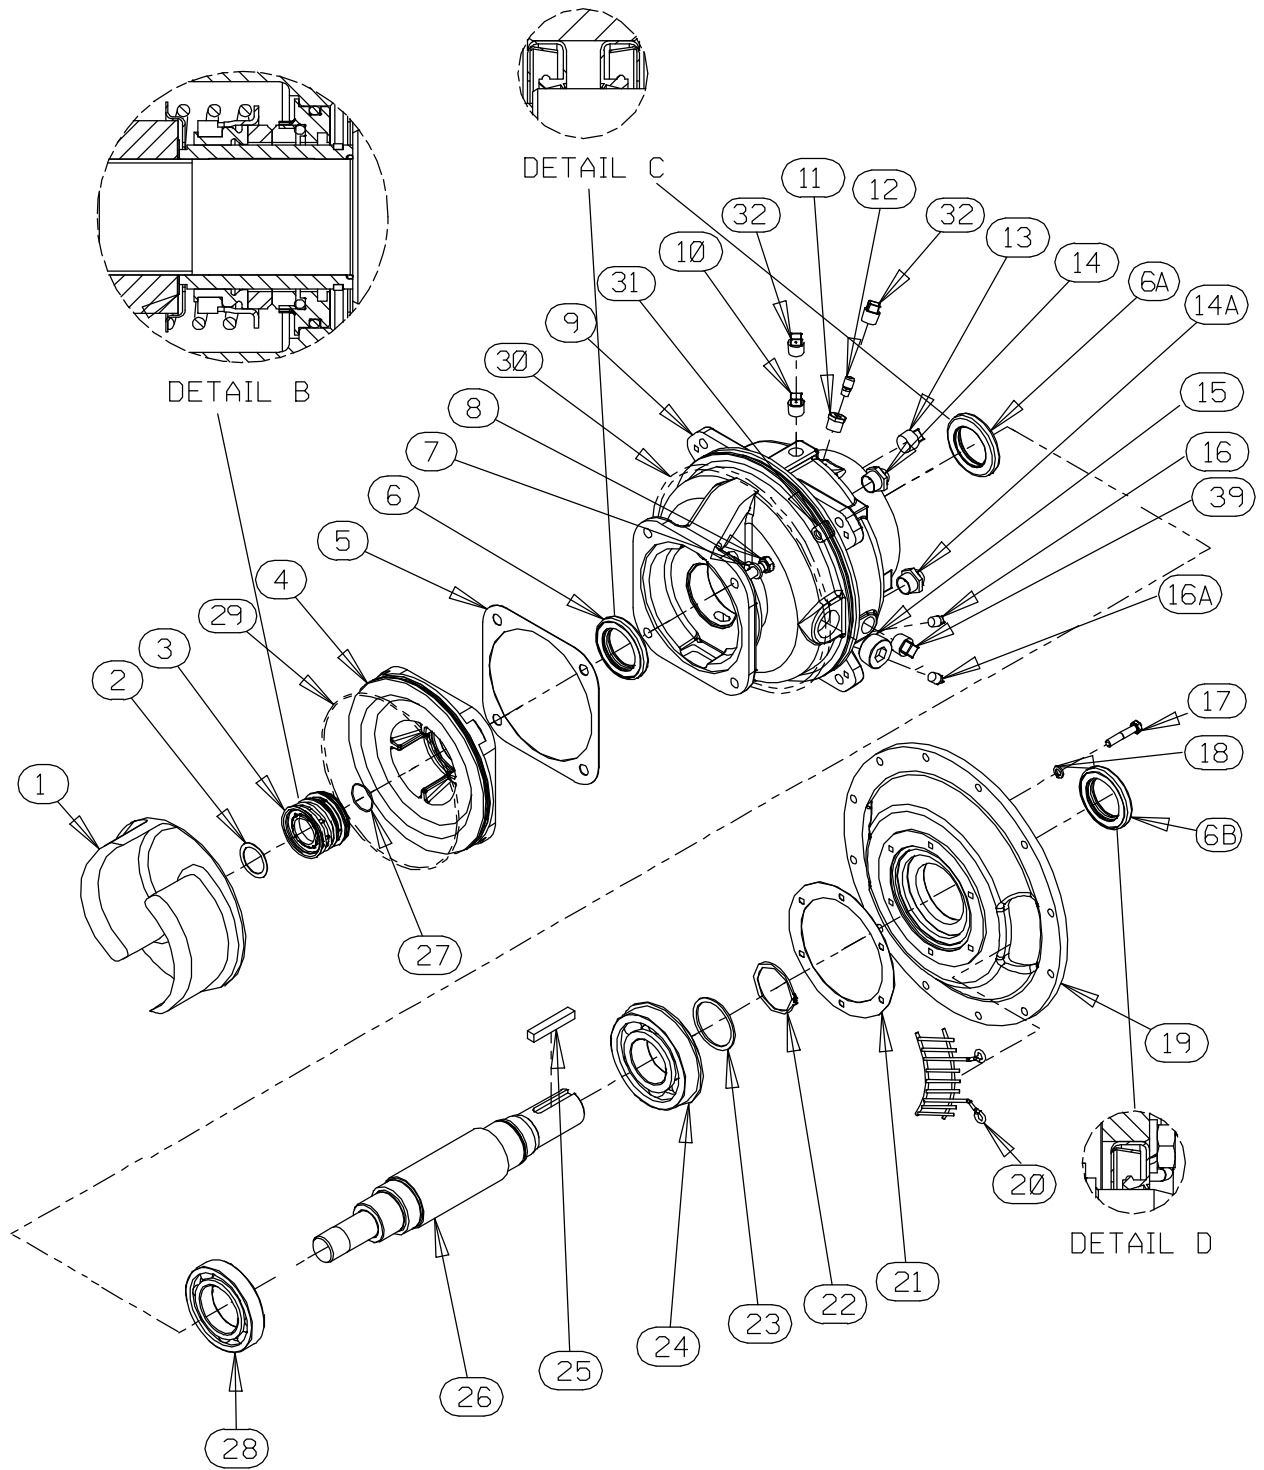

Figure 5. 44163-490 Repair Rotating Assembly
Disengage the hardware (2 and 3, Figure 2) securing the drive flange to the engine bellhousing, and remove the guards (20, Figure 5). Separate the pump end and drive assembly from the engine by pulling the pump end straight away from the engine.
two allen head setscrews from the bushing (1). Screw one of the setscrews into the puller hole on the circumference of the bushing. As the coupling and bushing separate, remove the bushing, and slide the coupling off the shaft. Remove the shaft key (25, Figure 5).